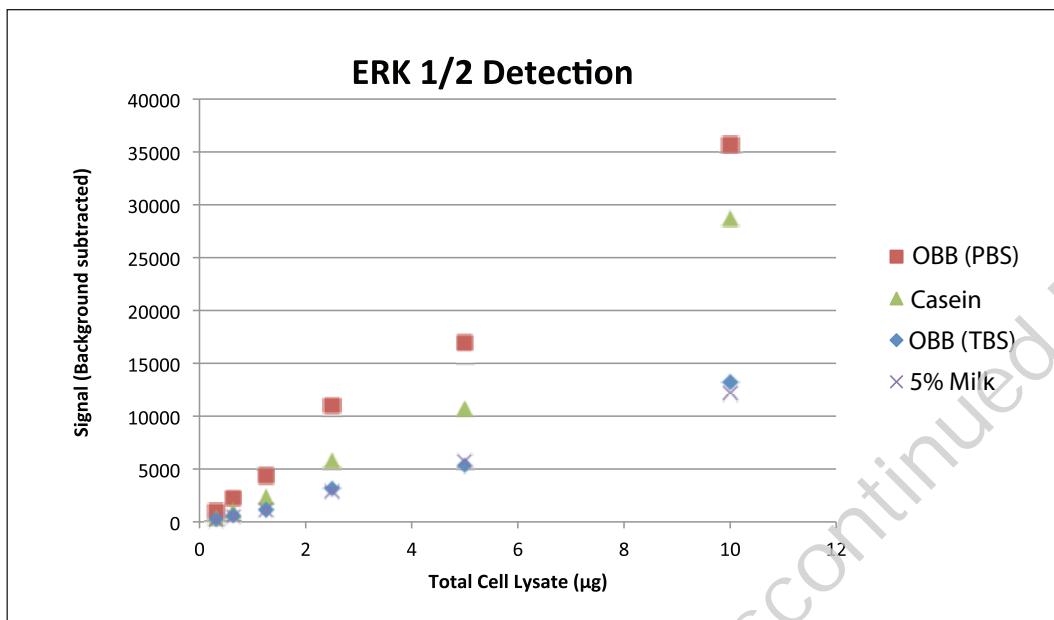

Figure 2C. Quantification data of images shown in Figures 2A and 2B.
Figure 2C. Quantification data from all four blots were plotted. Band intensity was highest in Odyssey Blocking Buffer (PBS). Intensity was lowest in 5% Milk and Odyssey Blocking Buffer (TBS).
- The strongest signals were observed with Odyssey Blocking Buffer (PBS) (OBB-PBS, Fig. 2C). Signals observed with casein blocker were also good.